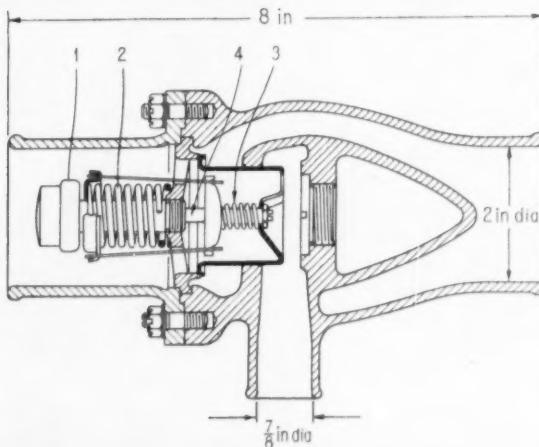
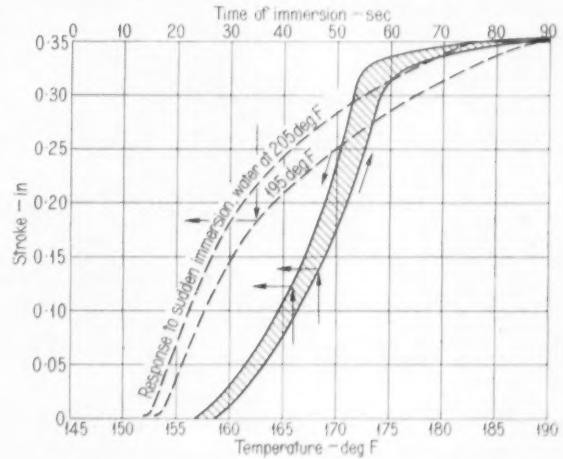

Fig. 13. Thermostat with pressure-insensitive element. Housing designed to reduce pressure losses
Fig. 14. Performance curves of the thermostat in Fig. 13
Thermostats incorporating pressure-insensitive elements, Fig. 13, are now made in this country. The thermostat incorporates the element (1), working against the return spring (2). Should the element continue to expand after the valve comes against the stop, thus closing the by-pass passages, the stem (4) will compress the spring (3) without moving the valve. To reduce as far as possible the losses encountered by the coolant leaving the valve, the passage has been proportioned here to ensure gradual expansion so that the change of section should correspond to that of a diffuser with an included angle of 10 deg. The performance of units of the type, shown in Fig. 14, can be regarded as generally satisfactory.